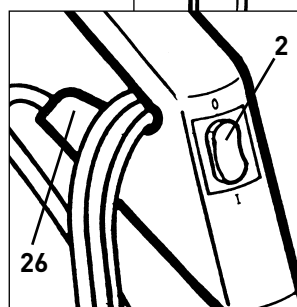

Figure 2
2. Release the power cord plug from the power cord and lift the cord off of the upper cord hook (#26, figure 2).
3. With the switch (#2, figure 2) in the "O" (OFF) position, plug the polarized power cord into a 120 volt outlet located near the floor.